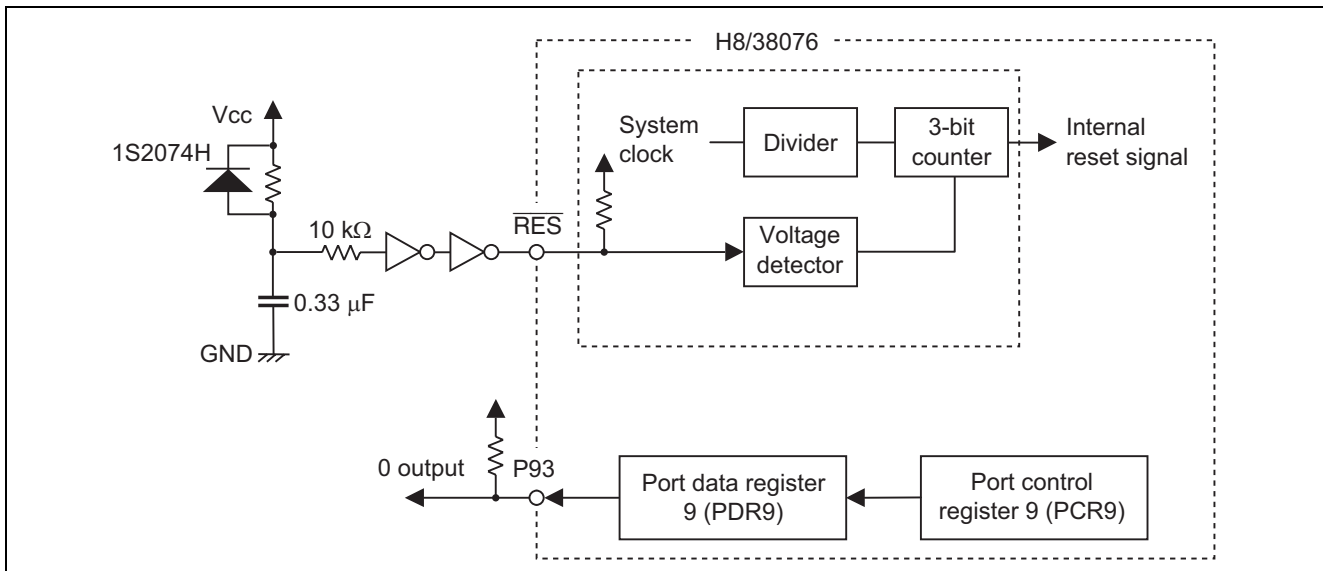

Figure 2 Block Diagram of RC Diode Circuit and H8/38076
1. This sample task connects an RC diode circuit to the H8/38076 to perform power-on resets. Figure 2 is a block diagram of the RC diode circuit and H8/38076. The block diagram of the H8/38076 is described below.